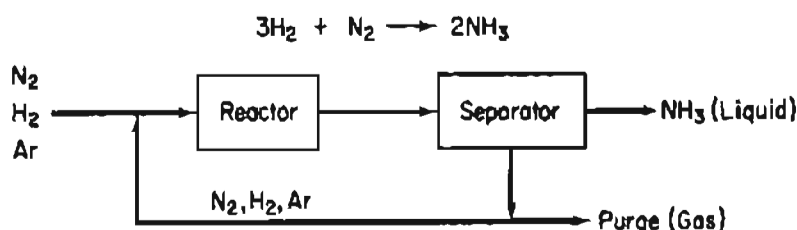

Figure SAT12.4P1
1. In the famous Haber process (Figure SAT12.4P1) to manufacture ammonia, the reaction is carried out at pressures of 800 to 1000 atm and at 500 to 600°C using a suitable catalyst. Only a small fraction of the material entering the reactor reacts on one pass, so recycle is needed. Also, because the nitrogen is obtained from the air, it contains almost 1% rare gases (chiefly argon) that do not react. The rare gases would continue to build up in